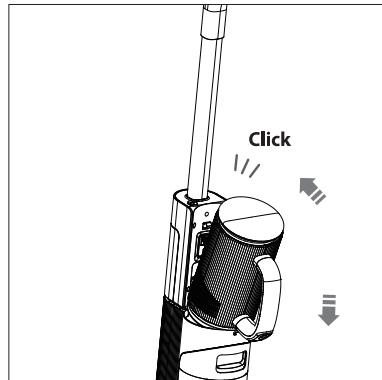

Fig. 28 – Inserting the motor unit
- ▶ Carefully press the motor unit into the appliance until you hear it click into place (**see Fig. 28**).